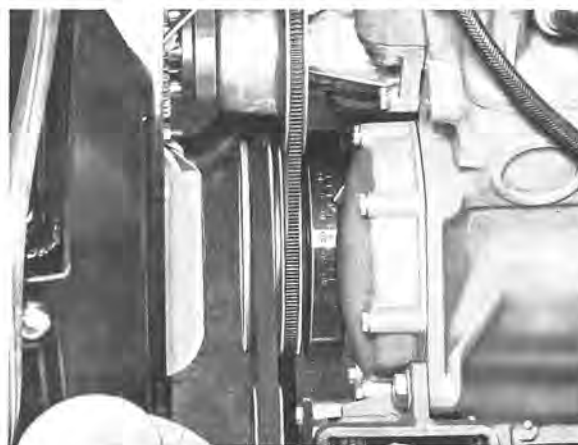

Fig. 3-61. Flywheel damper with graduation for ignition setting
1. Clean the flywheel damper so that the graduation marks are visible, see Fig. 3-61.
Start the engine and adjust the ignition, see Fig. 3-61. (If the engine does not start, turn the distributor housing until it does.)